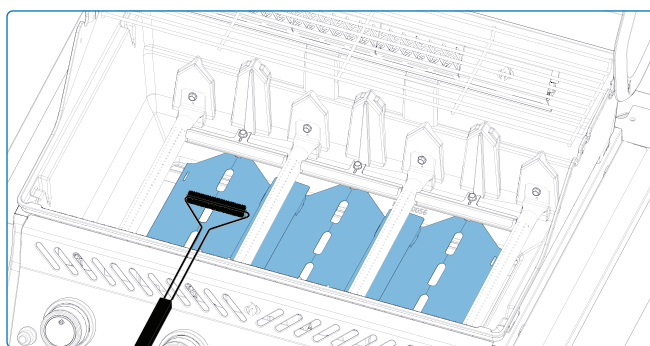

Fig. 11
- Clean the drip pan regularly—about every 4–5 uses—to prevent grease build-up (**Fig. 11**).